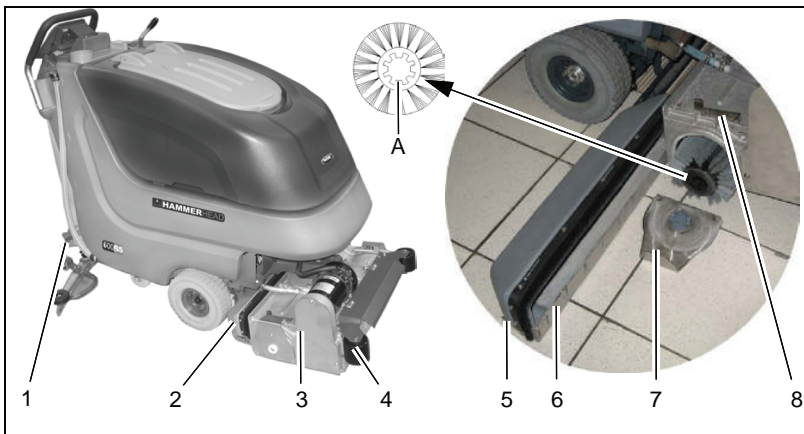

Fig.11
- Clean dirt hopper (Fig. 11/2) at daily intervals or as required. Remove dirt hopper from the right machine side (seen in direction of travel). Use quick-release (Fig. 11/5) to loosen feed inlet (Fig. 11/6) and clean dirt hopper.
1. Lift up cylindrical brush deck (Fig. 11/3) by pedal (Fig. 11/1).
2. Release brush seating (Fig. 11/7) by locking lever (Fig. 11/8).
Check roller bumpers (Fig. 11/4) at weekly intervals and replace if required.